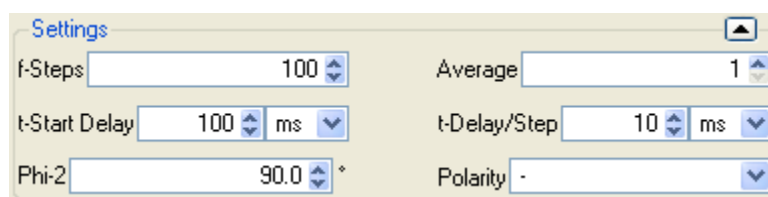

Figure 51. Needle sensor special settings.
- **Frequency Step:** the increment used for frequency sweeps depends on the settings for start, end and number of steps, see figure 51 above.